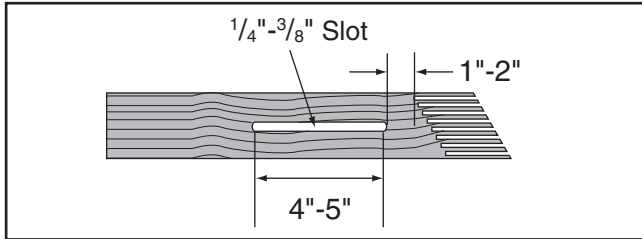

Figure 70. Slot routed in featherboard.
4. Rout $\frac{1}{4}$ "– $\frac{3}{8}$ " wide slot 4"–5" long in workpiece and 1"–2" from short end of featherboard (see **Figure 70**).